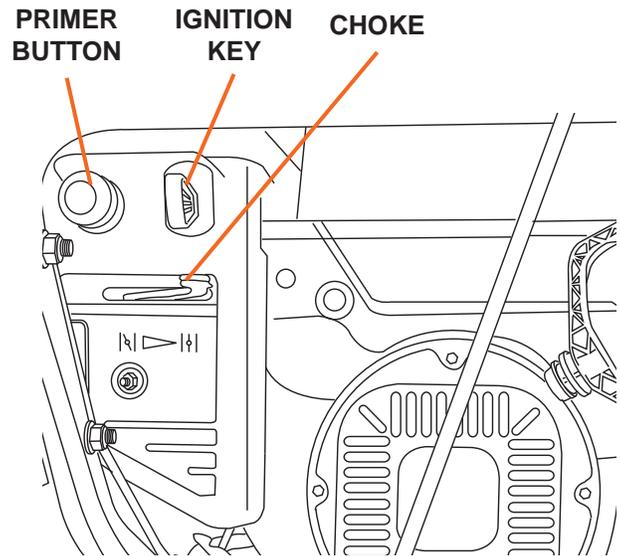

Figure 8
1. To start a cold engine, move the choke to the CHOKE position (to the left). To restart a warm engine, leave the Choke in the RUN position (to the right). (See Figure 8).